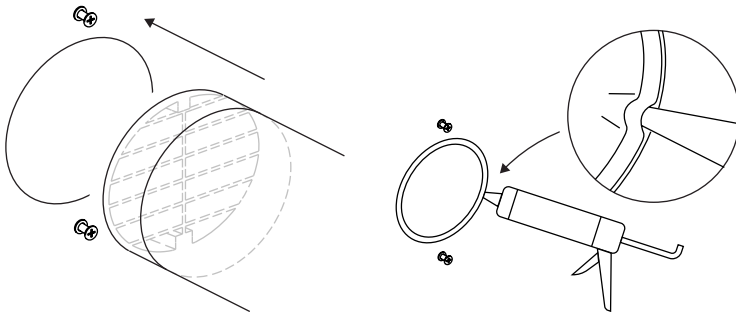

Figure 6.6. Installation of heat insulating tube
7. Install the tube into the air duct, directing the grid towards the outside (Figure 6.6). The veins of the grid should face downwards. Cut off the tube that protrudes into the room so that it is flush with the wall. Apply a neutral silicon sealant along a continuous line between the air duct and the tube from the room side.